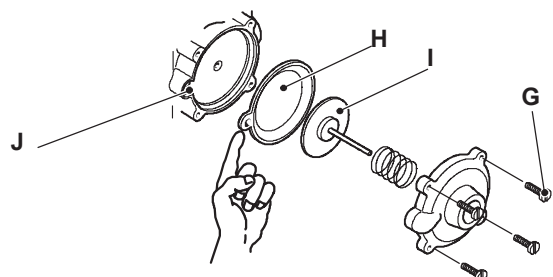

Figure 12.5
- 3 Unscrew the four screws G (Figure 12.5) open the hydraulic operator and remove the membrane H.
When assembling the membrane, ensure that its concave side faces towards the actuator plate I and the reference indicated aligns with the seat J (see Figure 12.5).